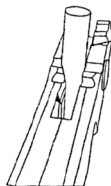

FIGURE 1
- 1) To change the safety screw: Insert wooden dowel provided between the scales so that it presses firmly against the safety plate, as shown in Figure 1. Keep pressure on this while removing the safety screw and replacing it with the new safety screw. Do not move the safety while the screw is out.